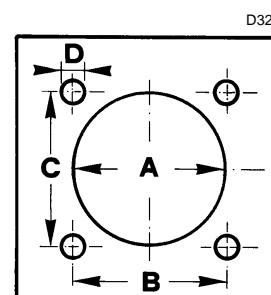

Fig. 10
Drill the combustion chamber locking plate as shown in Fig. 10. The position of the threaded holes can be marked using the thermal screen supplied with the burner.
- Remove the screws (2) from the two slide bars (3).
- Remove the screws (1) that secure the blast tube (6) to the burner (4).
Fasten the blast tube (6) to the boiler plate (Fig. 10 on page 15), inserting the gasket provided (5). Use the 4 screws provided after having protected the thread with antiscrufting products (high-temperature grease, compounds, graphite). The burner-boiler seal must be airtight.